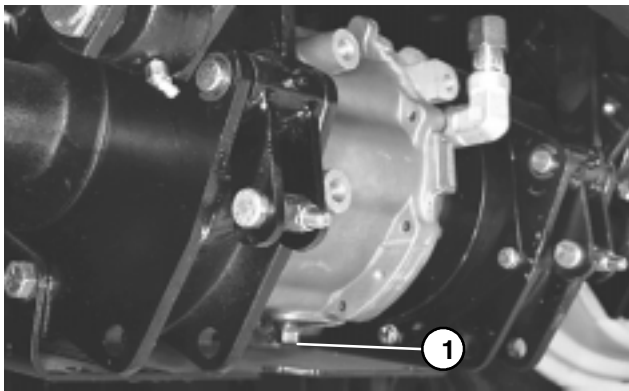

Figure 44
CHANGING FRONT AXLE LUBRICANT (Fig. 44)
2. Clean area around the drain plug (Fig. 44).